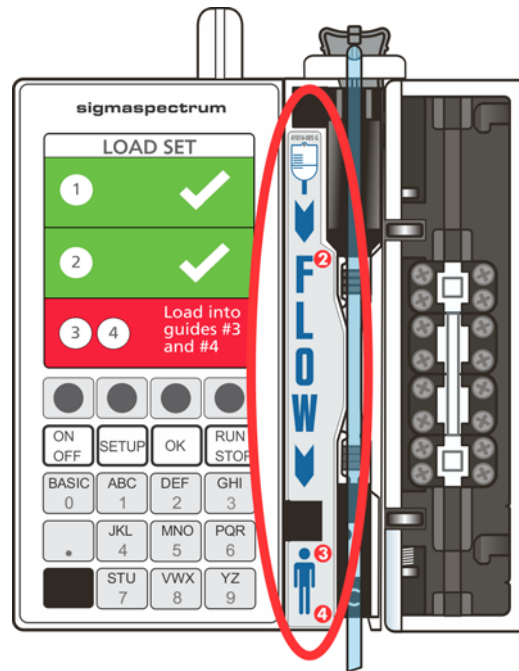

Figure 15. Direction of Flow Diagram.
7. Observe the Direction of Flow diagram, which is to the left of the pumping mechanism. See Figure 15.
9. Push the tubing into load guide 2 and confirm that the display is green for load guide 2. See Figure 15.